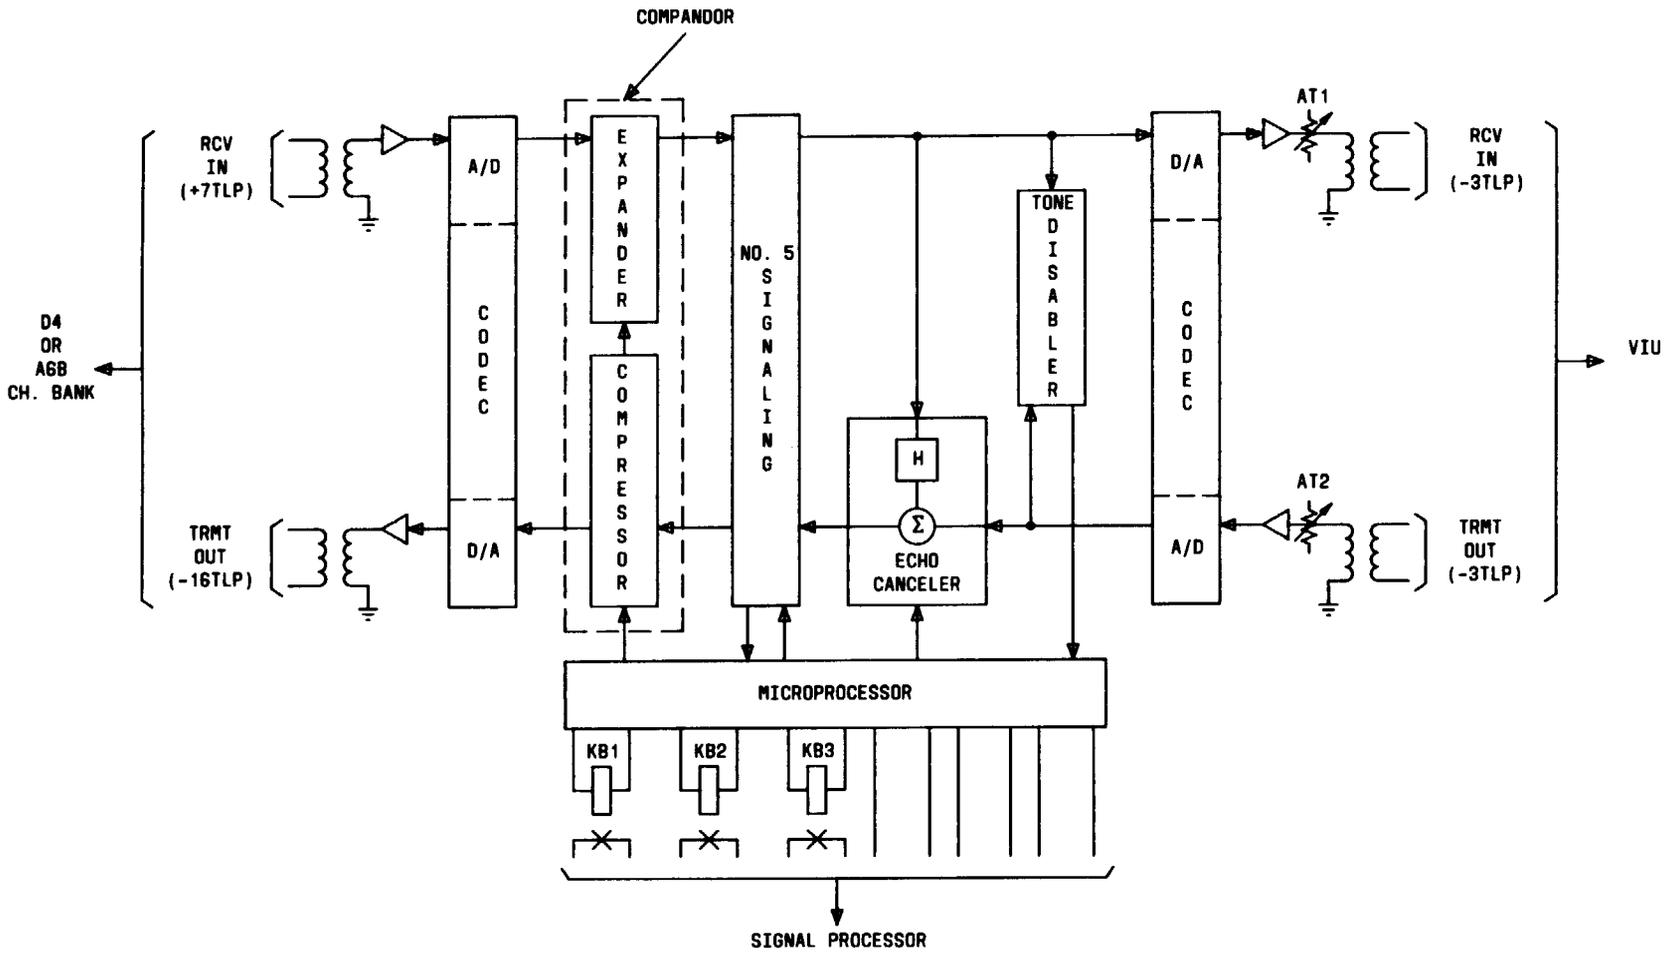

Fig. 2—J60110AA-1 Transceiver Block Diagram
**2.02** A block diagram of the J60110AA transceiver is shown in Fig. 2. The unit is a 2-way device that connects to A6 or D4 channel banks on the line side and to a 4 ESSTM switch VIU (voice interface unit) on the drop side. The transceiver contains components that perform six significant functions: